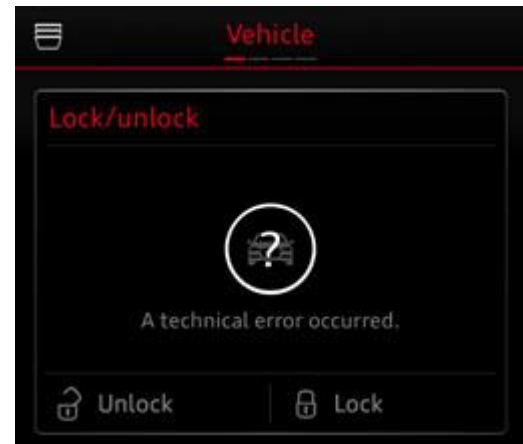

Figure 2. Lock/unlock error.
- The vehicle cannot be locked or unlocked with the app, and an error message stating "A technical error occurred" is displayed (Figure 2).